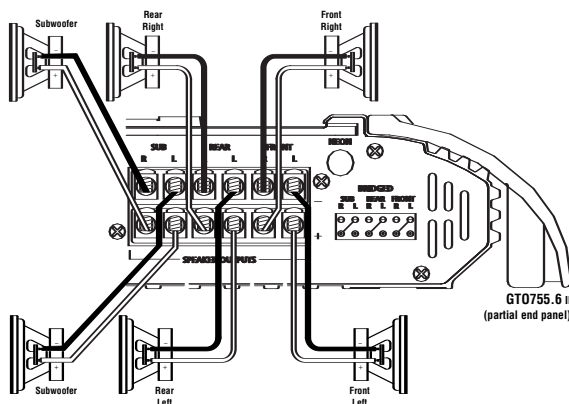

Figure 9. 6-Channel operation: GT0755.6 II amplifier driving full-range front and rear speakers and a pair of subwoofers.
The GT0755.6 II can be configured for 6-channel, 5-channel or 3-channel operation, as shown in Figures 9 through 11.
NOTE: For simplicity, Figures 9 through 11 do not show power, remote and input connections.
Figure 10. 5-Channel operation: The same as Figure 9, with the subwoofer output bridged to drive a single 4-ohm subwoofer, providing the speaker with more power.
5. For each tube, align both clips so the square ends slide onto an exposed extrusion edge, as shown in Figure 9. Do not cover any screw holes. When installed correctly, each neon tube will sit under an extrusion and not be visible when viewed from directly above.